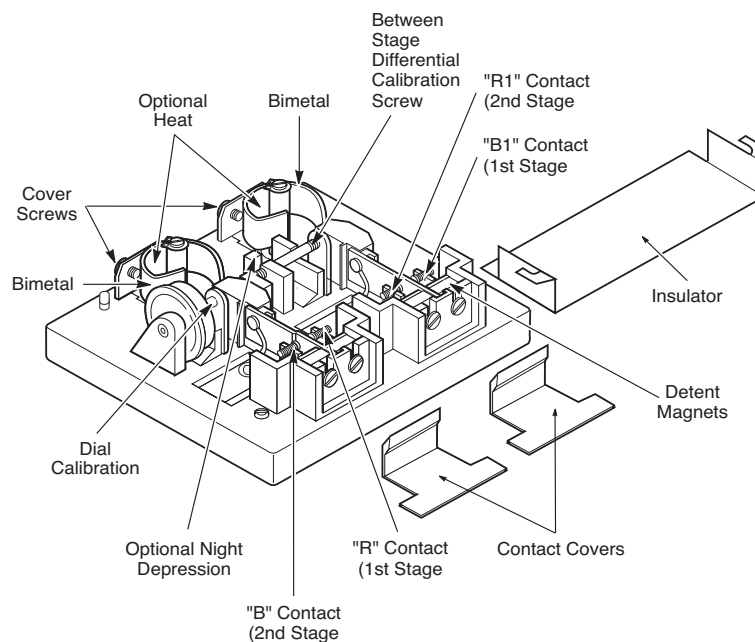

Figure-3 Part Identification.
3. Remove thermostat cover, remove screw that secures right-hand side of insulator, fold back insulator, and remove contact cover. (See Figure-3 .)